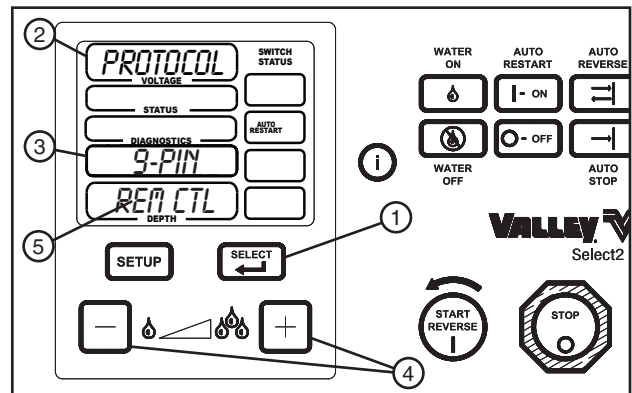

Figure 23-2
5. Use the application depth buttons to set the 9-pin protocol value to REM CTL. See figure 23-2.